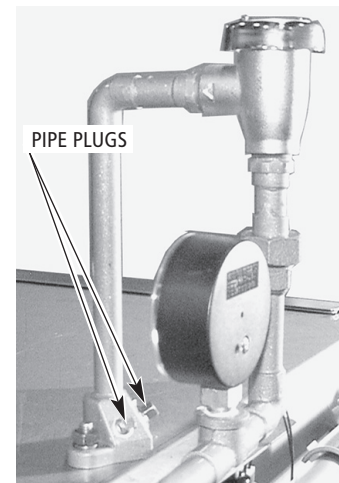
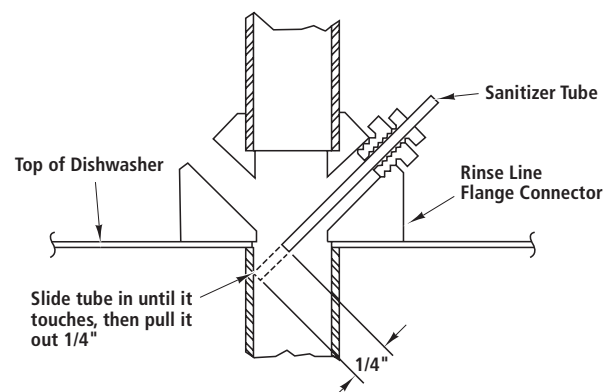

Figure 13
Figure 14
The rinse line flange connector on top of the dishwasher has two $\frac{1}{8}$ " NPT pipe plugs (*Figure 13*).
- Remove the plug(s) (*Figure 13*) for installation of the rinse aid dispenser tube and / or chemical sanitizer tube, as needed.
- Remove the pipe plug (*Figure 13*) for installation of the chemical sanitizer tube. To assure an unobstructed flow of sanitizer, locate the sanitizer tube in the center of water flow by drilling the sanitizer tube fitting so that its inside diameter is equal to the outside diameter of the tube. Slide the tube into the flange until it touches the opposite side and then pull it back out $\frac{1}{4}$ " (*Figure 14*).